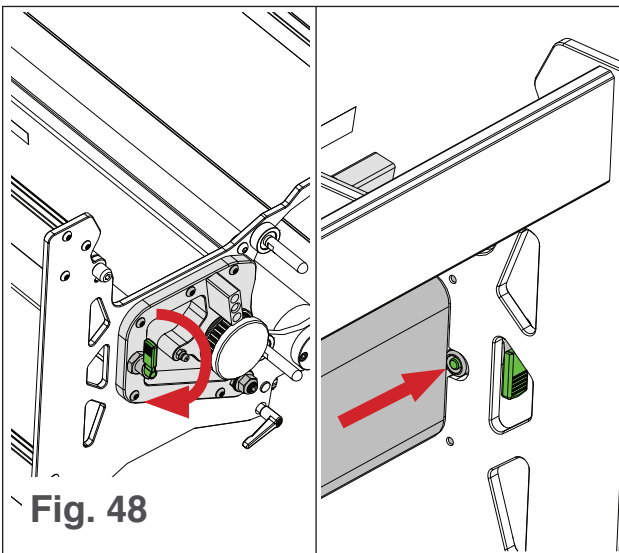

Fig. 48
3. Rotate both vacuum shroud locking pins 180° so the pins completely retract (see Fig. 48).